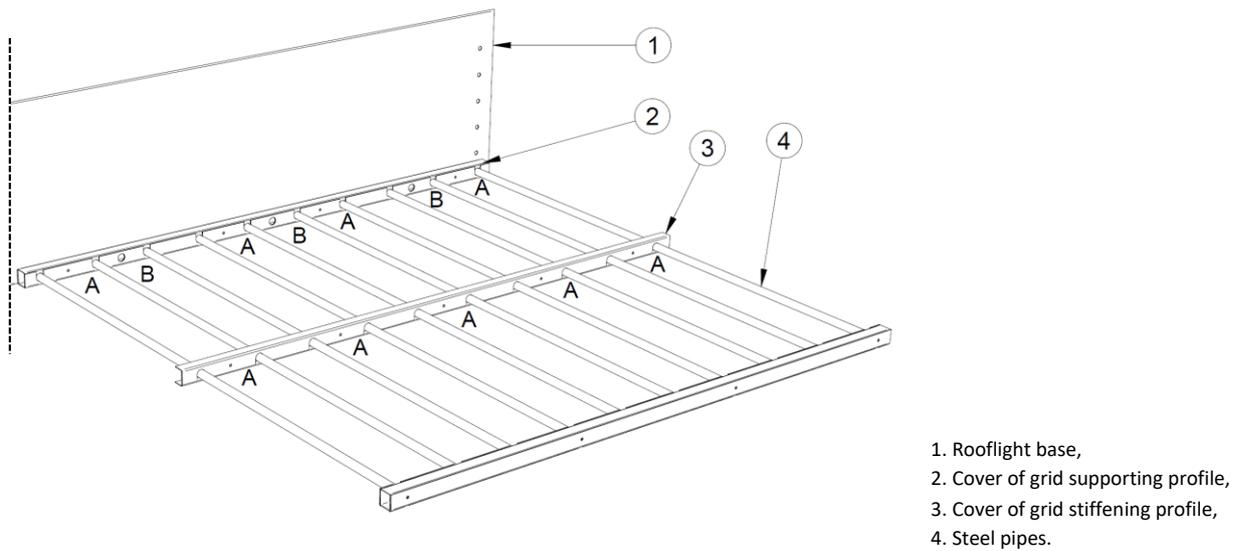

Figure 19 Arrangement of cover profiles
5. Put on the covers and screw them to the grid supporting profile (B) and to the base (Figure 19) through the supporting profile at positions defined by the holes (A) using $\text{Ø}6.3 \times 25$ mm self-drilling screws (Figure 19).